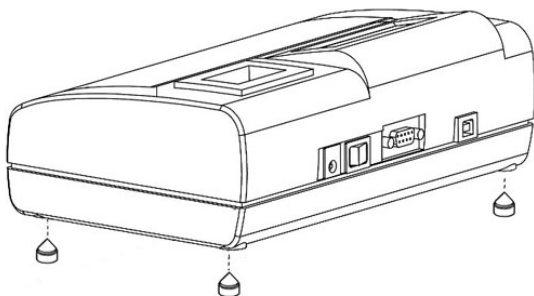
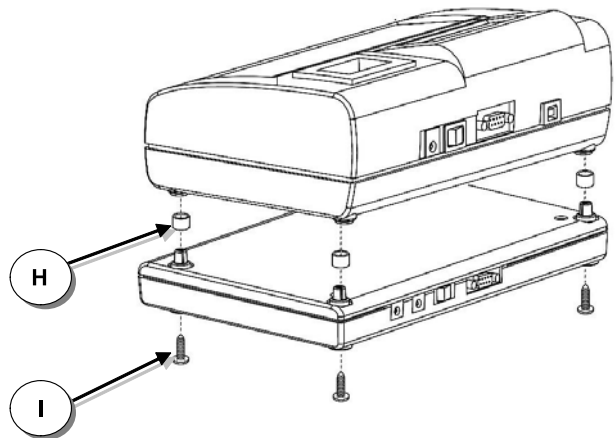

Figure 3
Figure 4
- Remove the four rubber feet from the bottom of the machine. Figure 3
- Fit the gaskets (H) onto the pins.
- Fit and tighten the fixing screws on the bottom (I) of the Plus-Box module. Figure 4